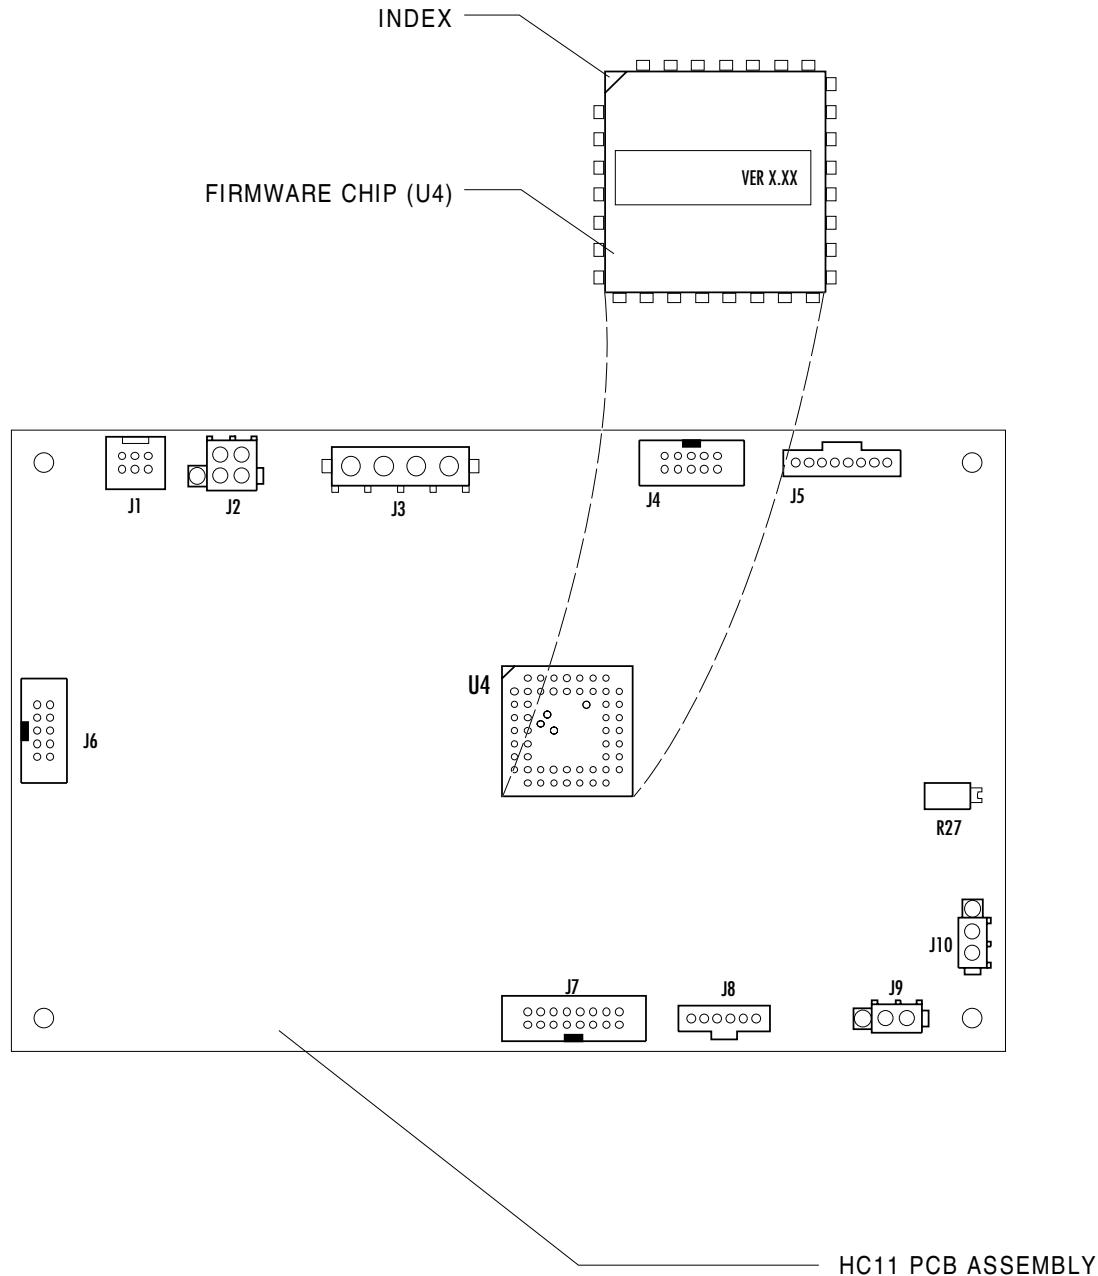

Figure 4-30B: MULTISPEC HC11 FIRMWARE LOCATION (MODEL 4610)
- 4.30.25.1** Locate firmware chip U4 on the HC11 PCB assembly (see Figure 4-30B) and carefully remove the chip using a 52-pin extraction tool (P/N S0010069).